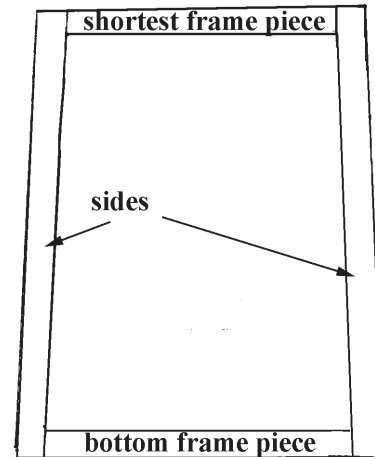

FIG. 1
- ___1. Test fit the 4 frame pieces together without glue first, to see how they all fit. These parts are meant to stand on their narrow edges. Note that the shorter pieces are cut at slight angles to provide for a taper to the finished box. (fig. 1)